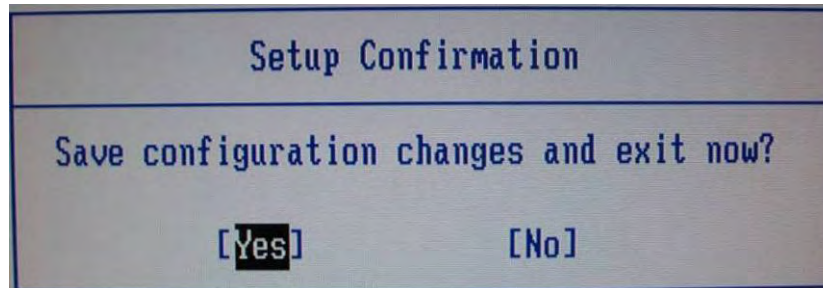

Figure 1-107. BIOS Save Setup
12. Press **F10** to save and exit the BIOS. The "Setup Confirmation" popup window displays the wording "Save configuration changes and exit now?". The **Yes** option should be highlighted (Figure 1-107).